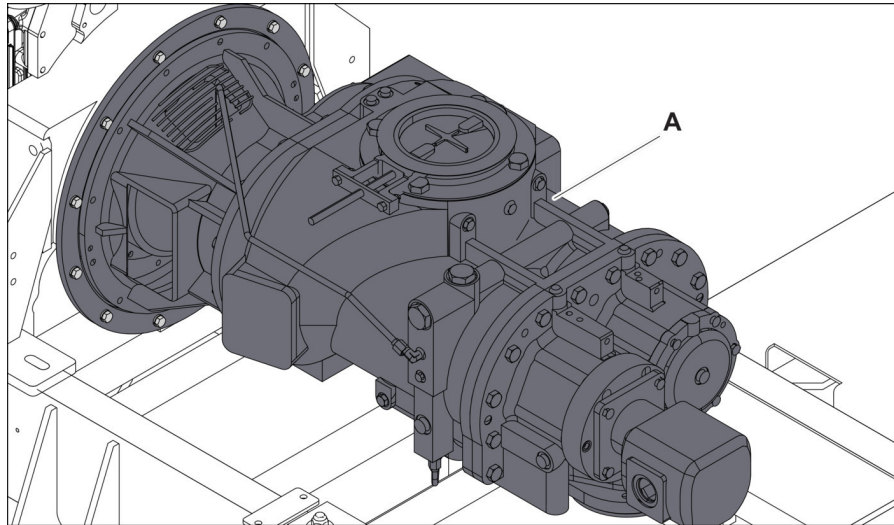

Figure 9
14. Attach an approved lifting device to the compressor (Figure 9, item A) according to the compressor type. Lift the compressor with the crane until there is slight tension.